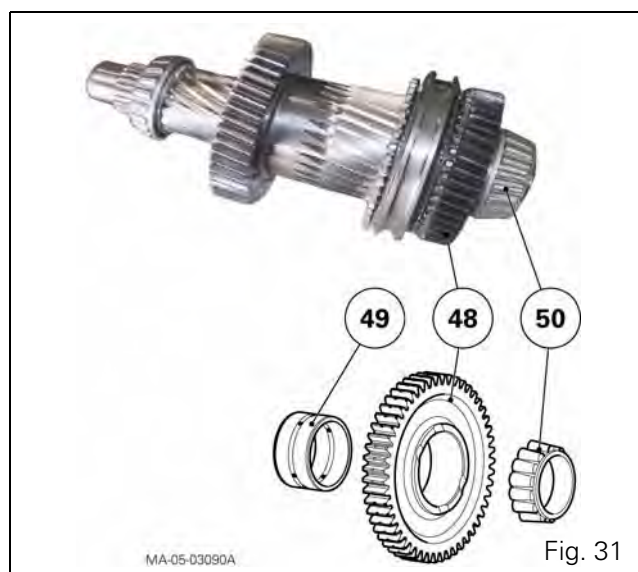

Fig. 31
85. Refit the bush (49) and pinion (48) (Fig. 31).
86. Using a makeshift tool, fit the bearing cones (2) and (50) on the shaft (1) (Fig. 31).